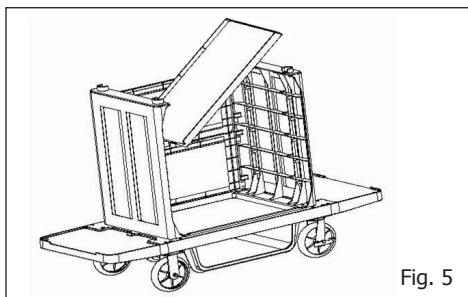

Fig. 5
- Screw the shelf boards onto the side boards with part E & K. (Fig.5)